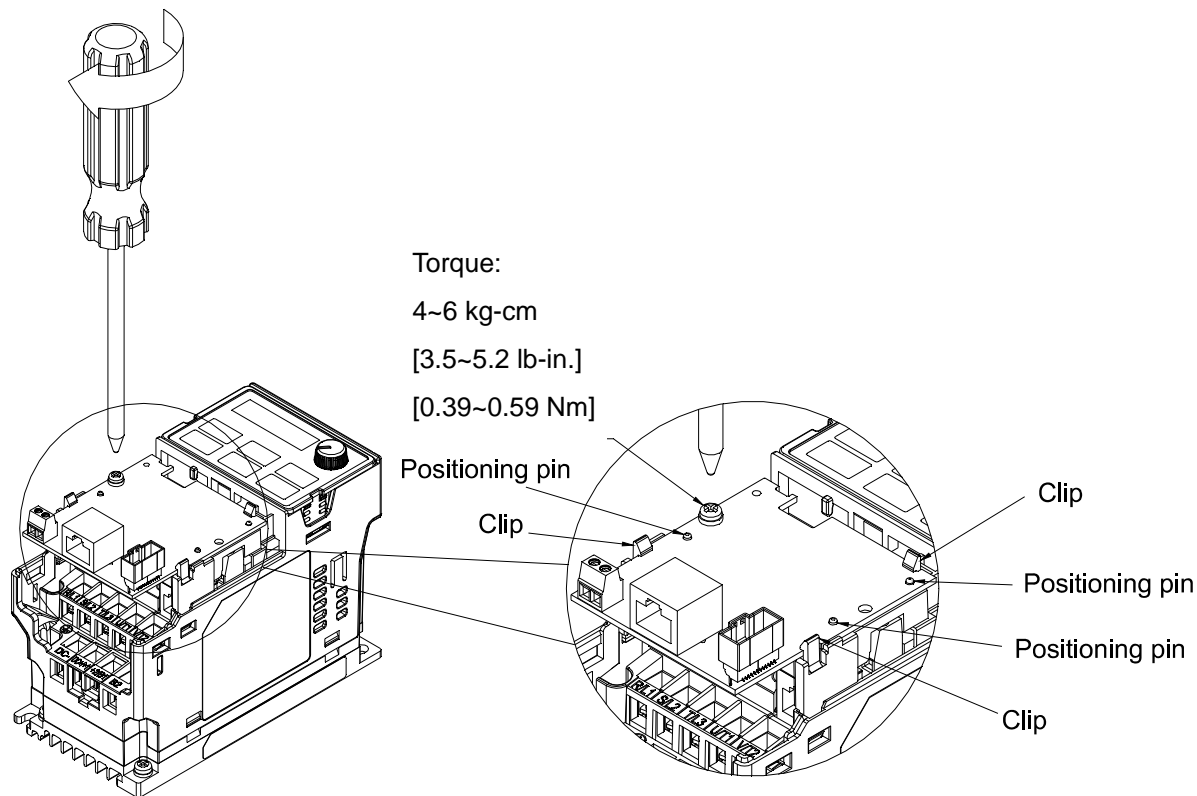

Fig. 8-3
- Wiring after the option card fixed fitting is clipped with the holes (see  **NOTE**). Fasten the screw to fix the option card before wiring (shown in Fig. 8-3). Torque: 4~6 kg-cm [3.5~5.2 lb-in.] / [0.39~0.59 Nm]. While the wiring is finished, the front cover cannot put it back on directly but needs to assembly the option card reversely. Please refer to the subsequent steps to complete the installation.